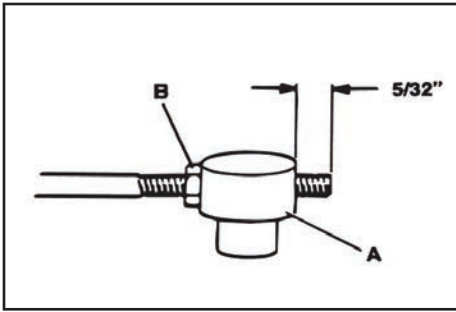

Figure 2.
b) Thread the pivot (Figure 2, item A) onto the cable terminal until the threaded portion of the terminal protrudes 5/32" (5 threads). Secure the pivot by tightening the nut (Figure 2, item B).